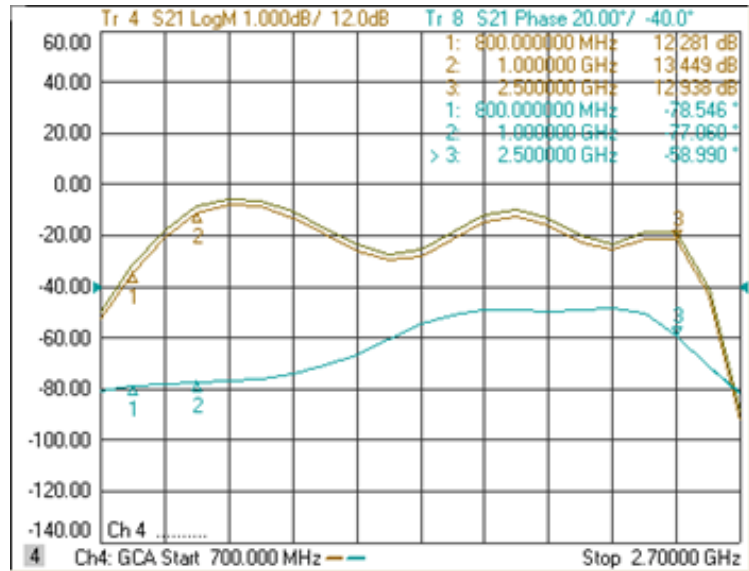

Figure 4-6. Typical A2, A3 Driver Module Response
- The typical response for the A2 and A3 Driver Module Amplifiers is shown in Figure 4-6.